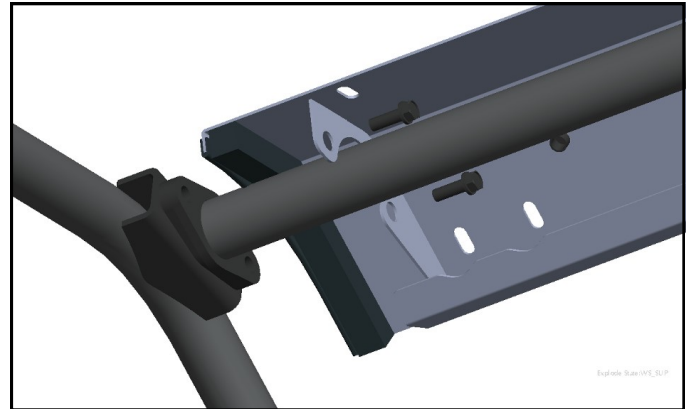

Fig. 1 (install windshield support)
1. Per fig. 1, remove and save the four bolts and washers holding the front cross member. Align the windshield support as shown in figure 1 and re-install the bolts. Start thread engagement by hand to avoid cross threading the weldnuts. Tighten the bolts making sure that the windshield support is pushed down and back so that it is as tight to the ROPS (Roll Over Protective Structure) frame as possible. Torque the four bolts to 48-55 N-m, 36-41 ft-lbs, or 4.9 to 5.7 kgf-m.